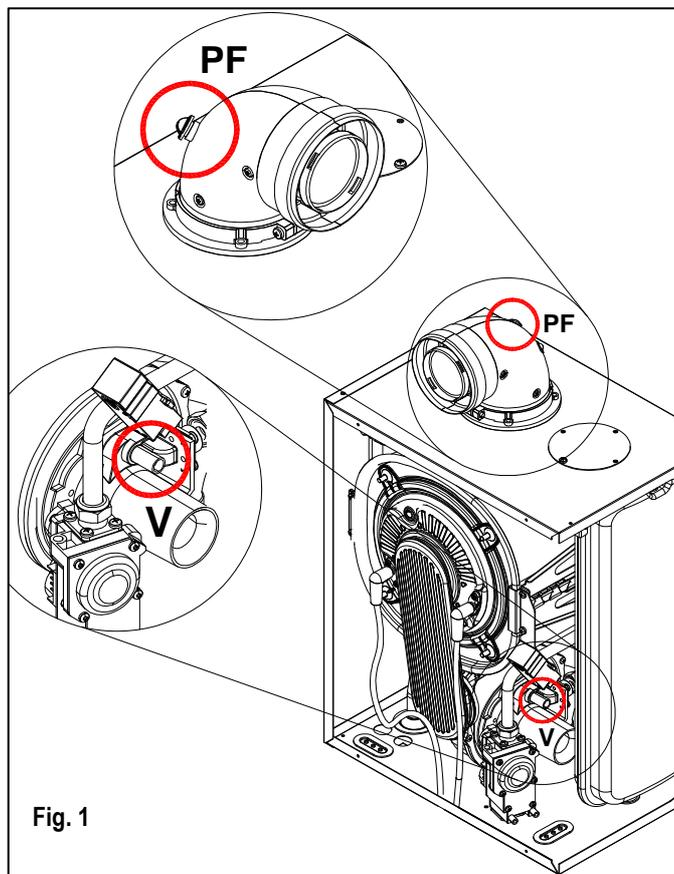

Fig. 1
- Unscrew the aluminium plug and insert an analyser in the exhaust sampling point **PF** (see fig. 1) to check the CO₂ value. Make sure that the value complies with that reported in table 1;
- If the CO₂ value does not correspond to the specified value, adjust screw **V** (see fig. 1) on the venturi clockwise to reduce the CO₂ value or anticlockwise to increase it;